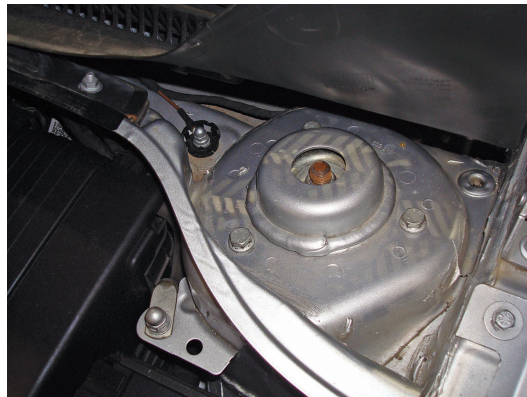

fig. 6
10. Remove the three bolts from the upper strut mount (Fig. 6) and remove the strut assembly from the vehicle.